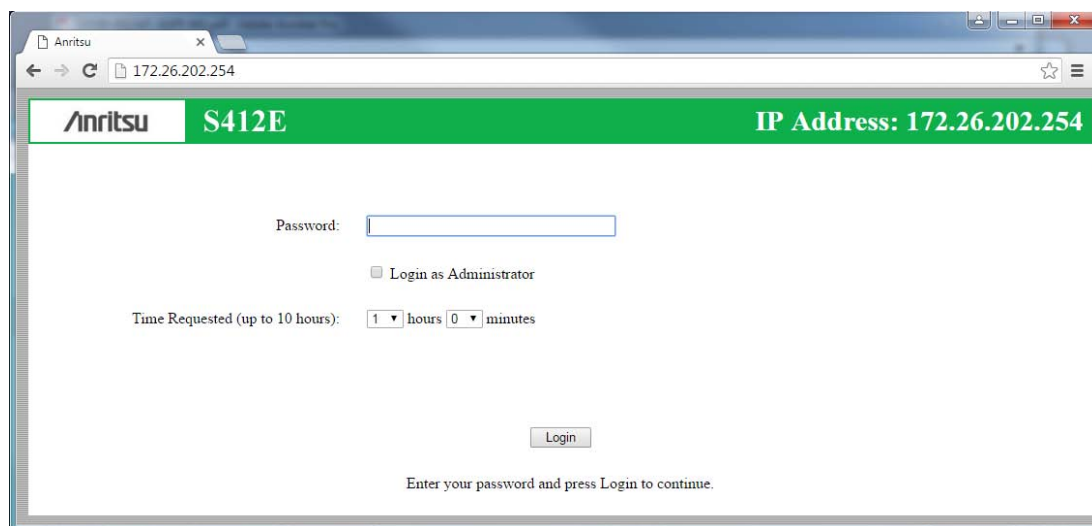

Figure 10-1. Login Page
7. Enter the instrument IP address in the browser address bar to open the Web Remote Control Login page illustrated in Figure 10-1 on page 10-3.
9. Enter the instrument IP address in the browser address bar to open the Web Remote Control Login page illustrated in Figure 10-1 on page 10-3.
The Web Remote Control Login page opens following browser connection to the instrument. See Figure 10-1. The page may show or hide certain elements depending on device management options set by the Administrator, as described in “Device Options” on page 10-12.